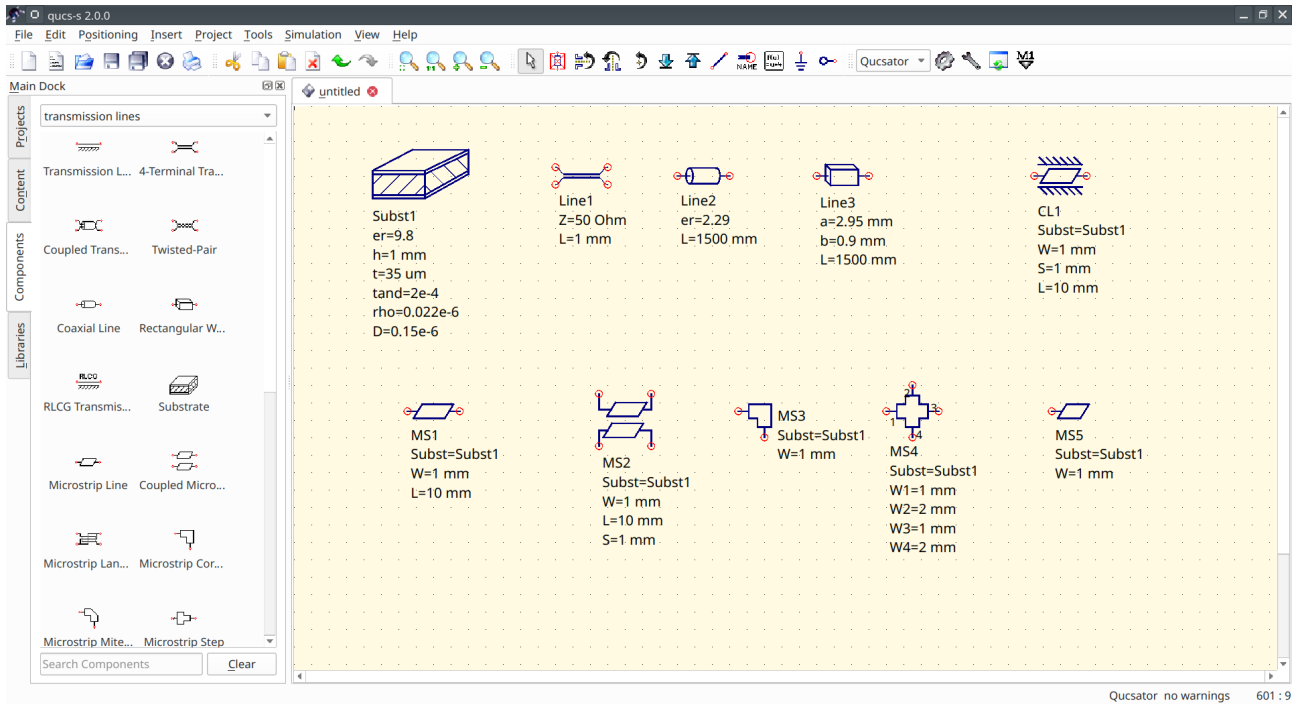

Figure 25: Transmission lines models available for Qucsator backend
But Qucsator supports some advanced RF simulation techniques like multiport S-parameter simulation (including 1-port) and harmonic balance (HB) analysis. Qucsator provides a number of improved models for transmission lines (Fig. 25). The most frequently used transmission lines are listed below: